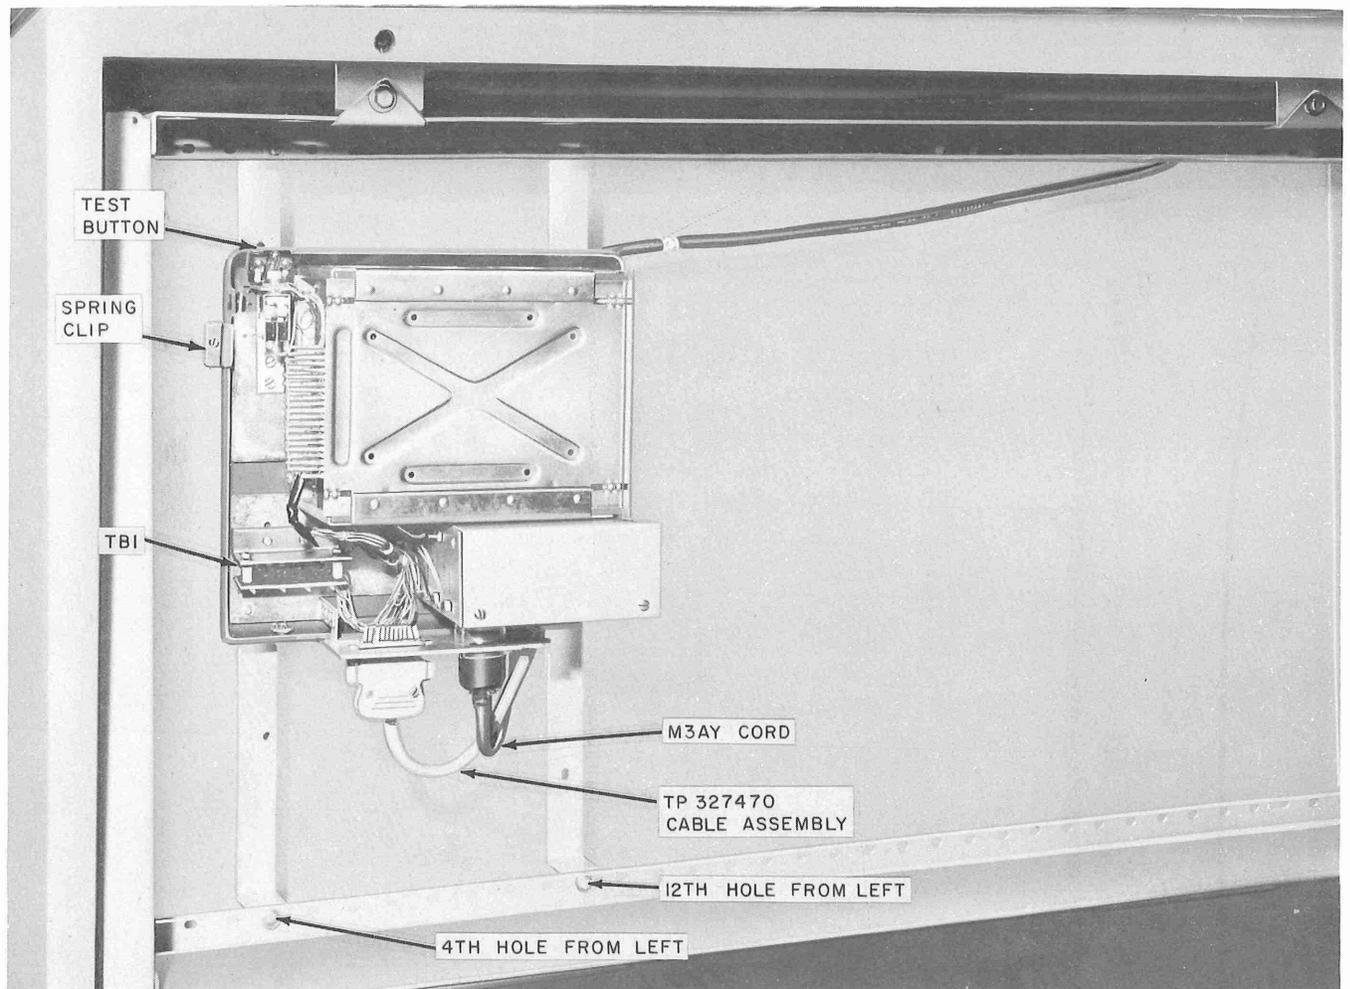

Fig. 4—Data Auxiliary Set 820D-L1A Mounted in a Bell System Model 35 Teletypewriter
2.06 The Data Set 108A- or 108C-type single private line station using DAS 820D2 is intended for installation in the kneewell of a Bell System Model 35 TTY (Fig. 4). DAS 820D-L1A may be mounted in the same way.